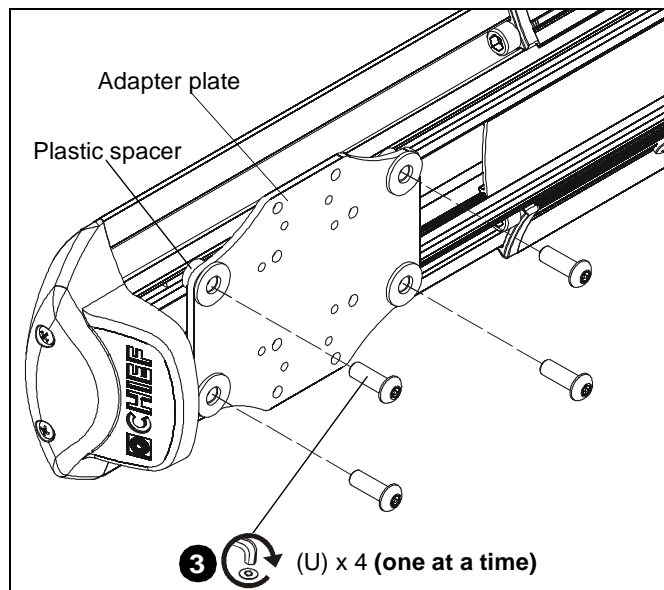

Figure 49
- Install one 1/4-20 x 3/4" button head security screw (U) into hole (vacated by removed bolt in previous step) and into plastic spacer. (See Figure 49)